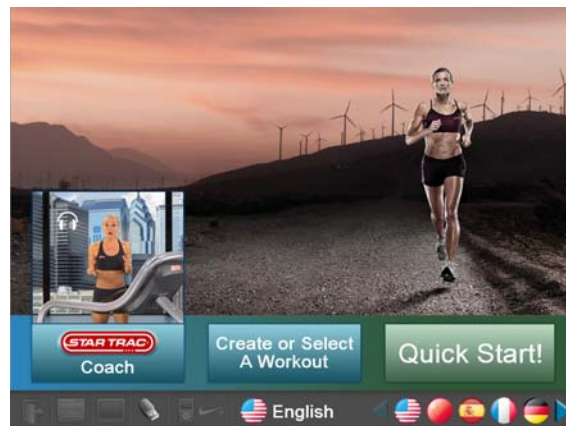

Fig. 1
1. Reboot the machine to clear the EC 42. Once the first splash screen is shown (Fig.1), press the following three keys: channel '+', volume '+' and '3'.